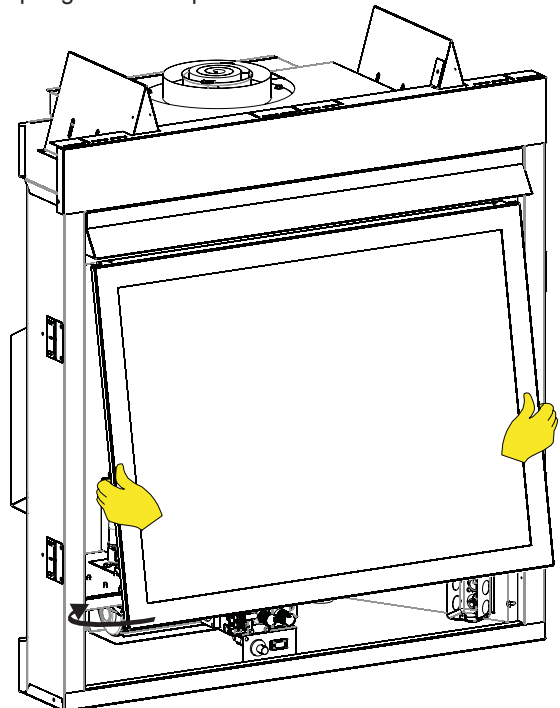

Figure 78
2. Gently lower the glass frame into place. **See Figure 78** for proper glass frame placement.
- Check all latches or other door retention components for proper operation, tension, and relief mechanisms are free from obstructions. **See Figures 78 and 79.**